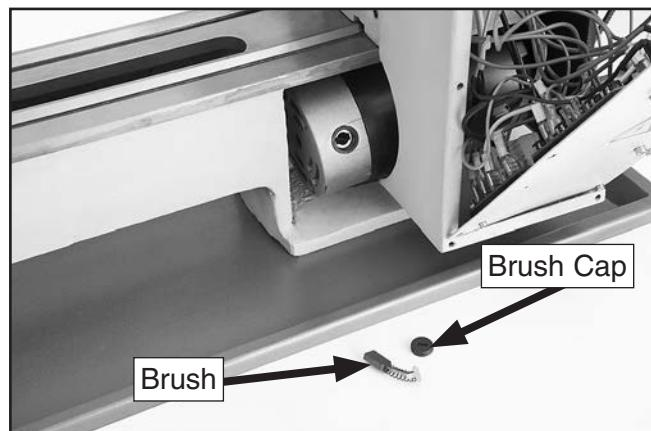

Figure 153. Top motor brush components removed (Model G0768 shown).
6. Unscrew brush cap and carefully remove brush from motor (see **Figure 153**).